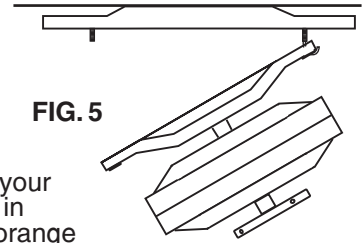

FIG. 5
A. Hanging the fan carefully, lift it up to the Mounting Plate. With the metal hook on the Mounting Plate, hook the motor bracket through the slot in one end. See Fig. 5.